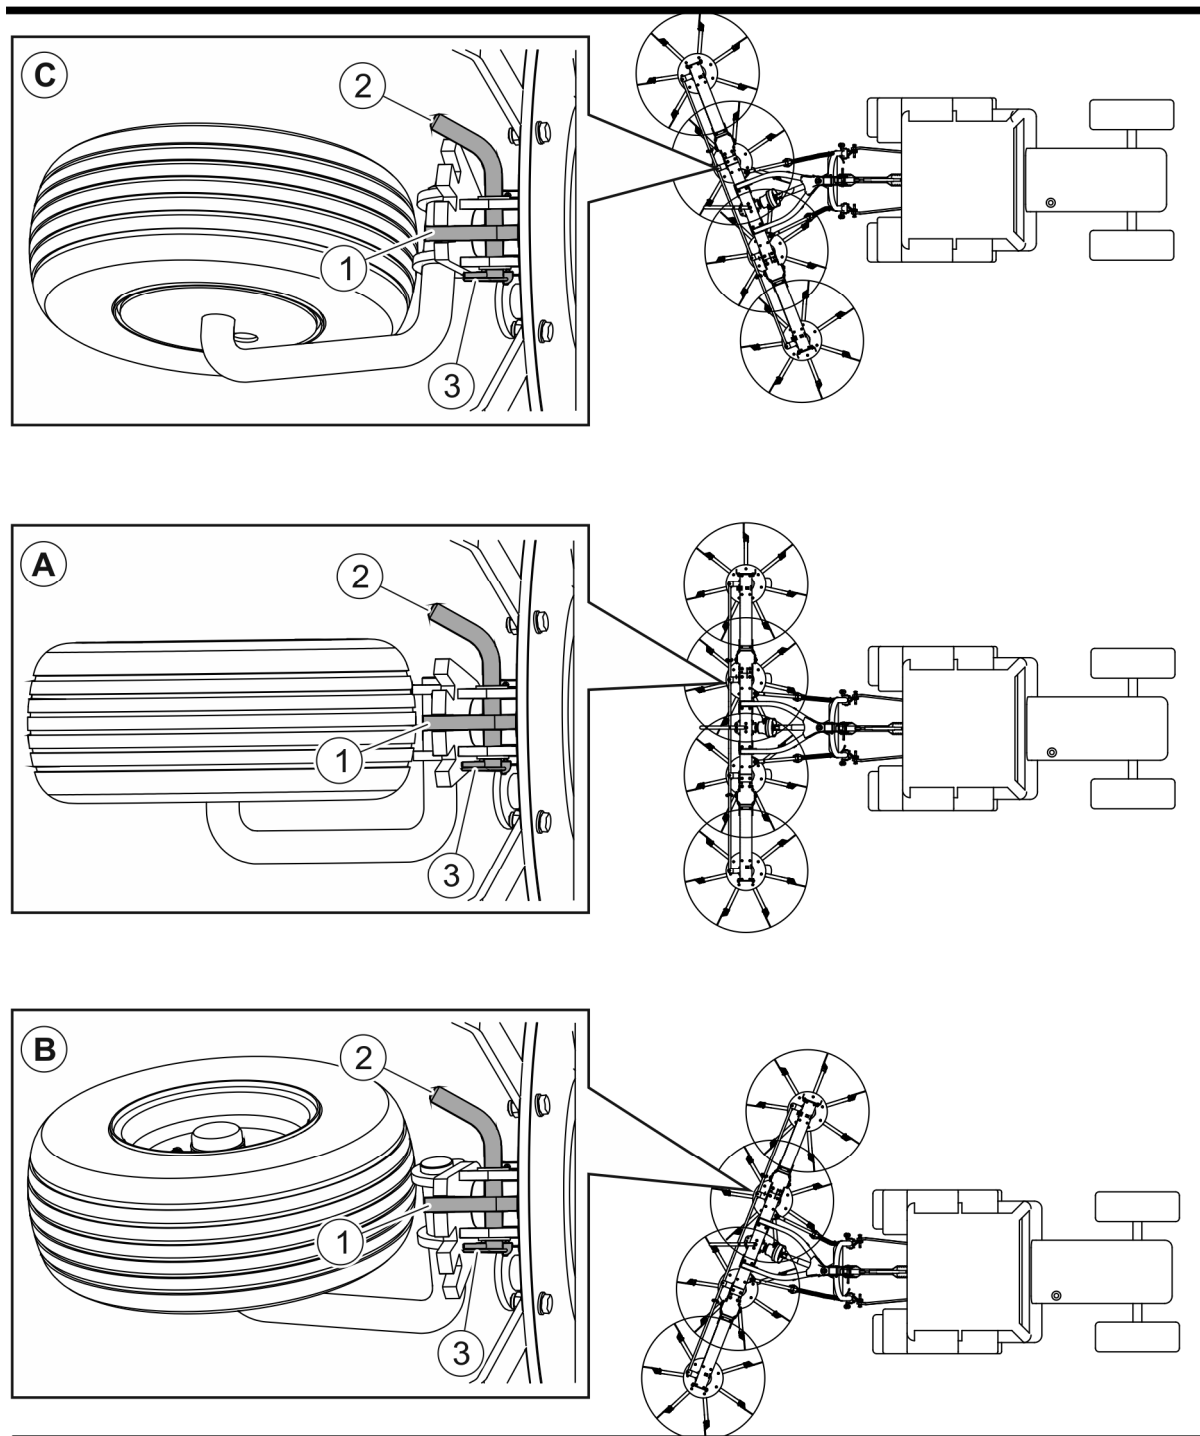

FIGURE 4.9 Tedder operation - border tedding (along the edge of the field)
During boundary tedding (along the field edge), adjust the deflection of all road wheels (FIGURE 4.9). When operating the tedder at the right edge of the field, all road wheels should be swiveled to the right (B), when working at the left edge of the field, all road wheels